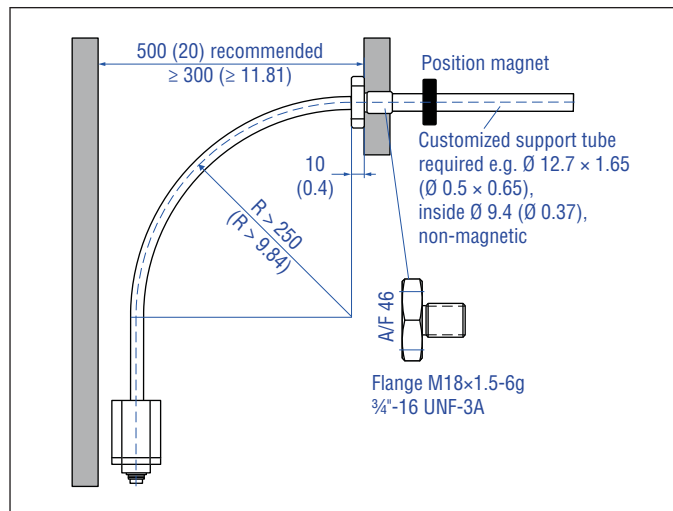

Fig. 15: Clearances for installation and handling
3. Note the minimum distance to a spatial limitation of 300 mm (11.81 in.), when mounting/dismounting the sensor. The recommended distance is 500 mm (20 in.) (Fig. 15).